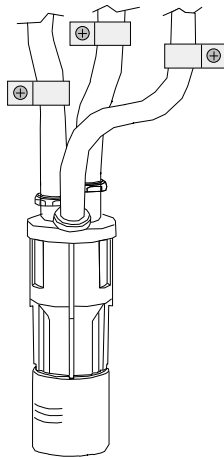

Fig. 6
4. Secure inlet tubes to wall using plastic clamps. Clamps are not included. Fig. 6.